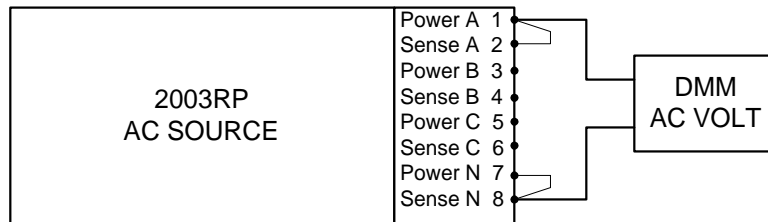

Figure 6-1: Test Equipment Hookup for Routine Output and Voltage Measurement Calibration
Connect the test equipment to the power source as shown in Figure 6-1. The DMM can be connected to the common output terminal at the rear of the unit. Use the phase output for phase A, B and then C in sequence to calibrate all three phases.
1. Connect the test equipment to the power source as shown in Figure 6-1. **Do not** connect any load during this step. Voltage calibration must be done under no load conditions.
Connect the test equipment as shown in Figure 6-1.